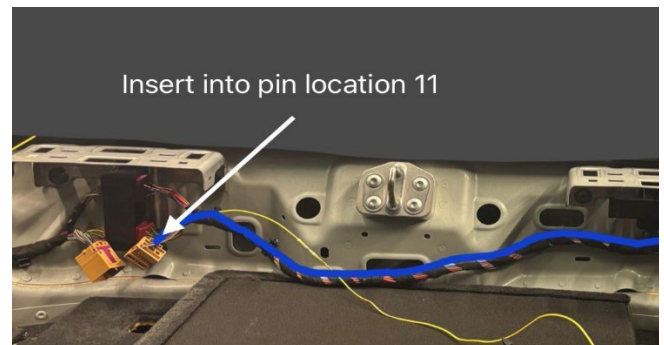

Figure 10. Rear Crossover Overlay
2.2.2. Route to rear crossover wconnection point area (Figure 10)